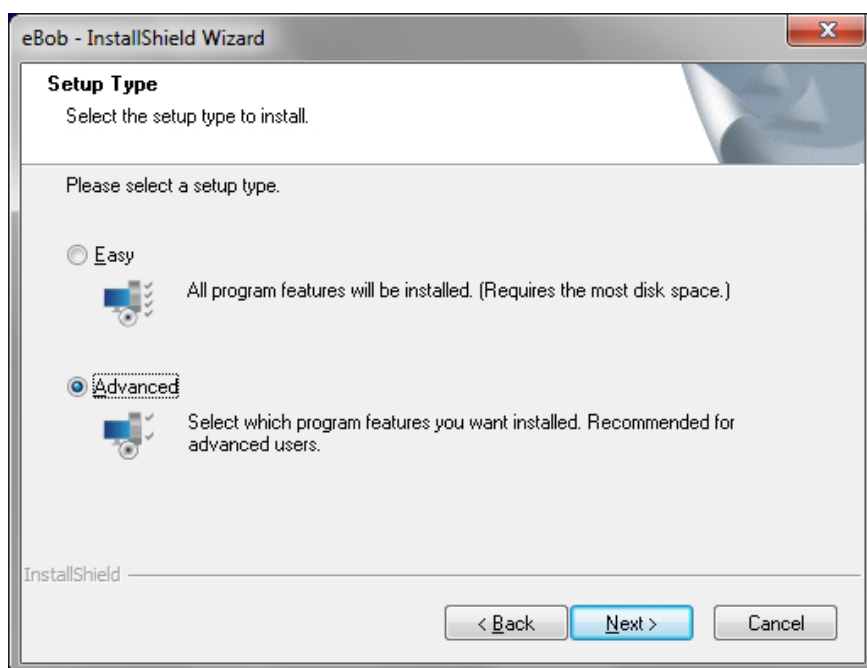

Figure 3
4. Follow the on-screen instructions and select the Advanced option when prompted for the setup type, as shown in Figure 3.